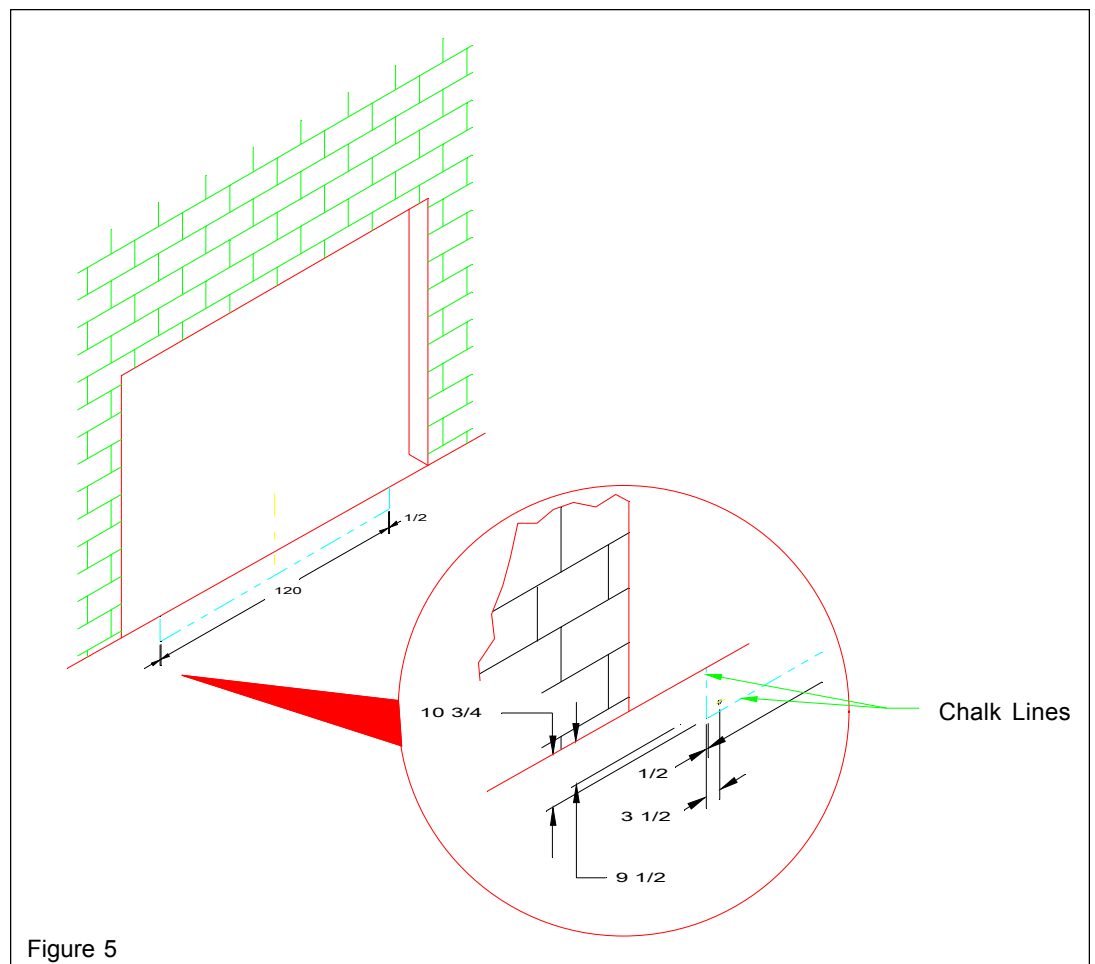

Figure 5
5. Measure down on face of dock from edge of dock 10-3/4". Draw or snap a line parallel to dock floor the length of the railramp track (See Fig. 5).